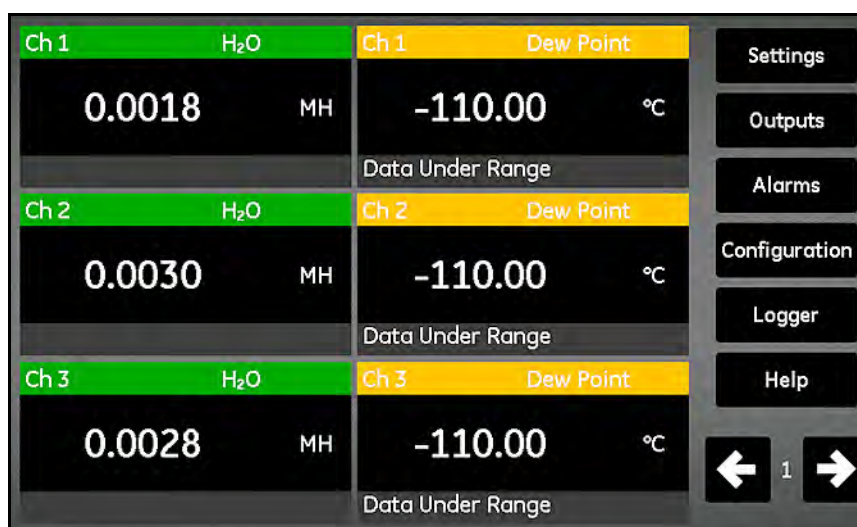

Figure 27: Measurement Display Screen
3. A measurement display screen, similar to that shown in *Figure 27* below.
The measurement display screen shown in *Figure 27* above is a touch screen which includes the following items: